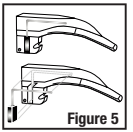

Figure 5
2. Pull out the green base of the fiberoptic bundle and slide out the light guide (Figure 5). (Note: The fiberoptic bundle is tightly fitted and may be difficult to remove.)